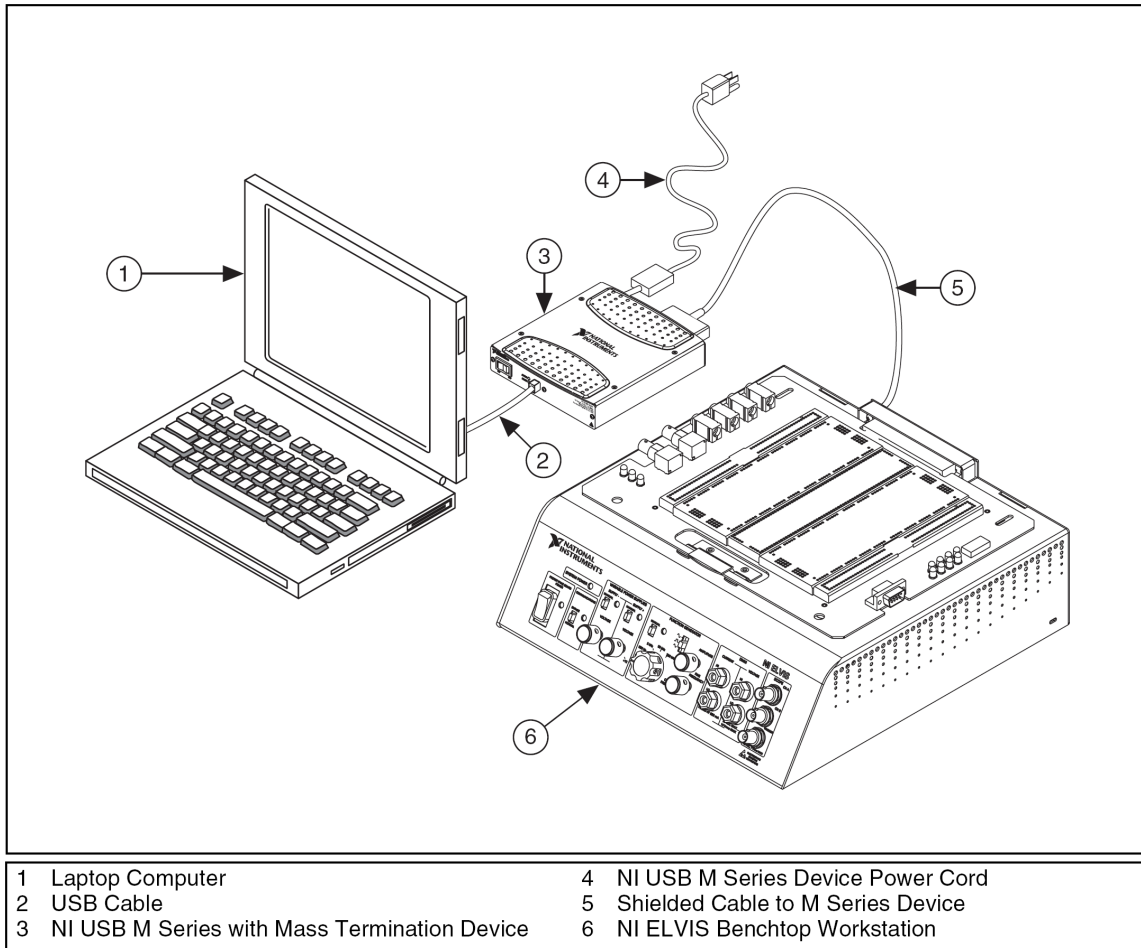

Fig. 1. NI ELVIS system.
NI ELVIS (Fig. 1) consists of LabView based software, a DAQ (data acquisition) device and a benchtop workstation and a prototyping board which provides a suitable device for data recording and analysis. The NI ELVIS hardware provides a function generator and variable power supplies which could be controlled either manually or through the NI ELVIS software. The NI ELVIS LabView soft front panel (SFP) instruments combined with the DAQ device and the NI ELVIS workstation provides different SFP modules including arbitrary waveform generator (ARB), bode analyzer, digital bus reader, digital bus writer, digital multimeter (DMM), dynamic signal analyzer (DSA), function generator (FGEN), impedance analyzer, oscilloscope (scope), two-wire current voltage analyzer, three-wire current voltage analyzer and variable power supplies. These SFP instruments
- 1- Turn on the NI USB M series (module 3, Fig. 1) and the NI ELVIS benchtop workstation (module 6, Fig. 1).